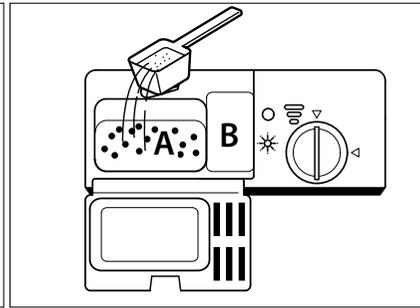

Fig. 13
- ▶ Fill the left dispenser (3) with dishwasher powder or a detergent tab (see **Fig. 13**). During the pre wash cycle: If using dishwasher powder, you can also fill the right dispenser (4) with a little powder.